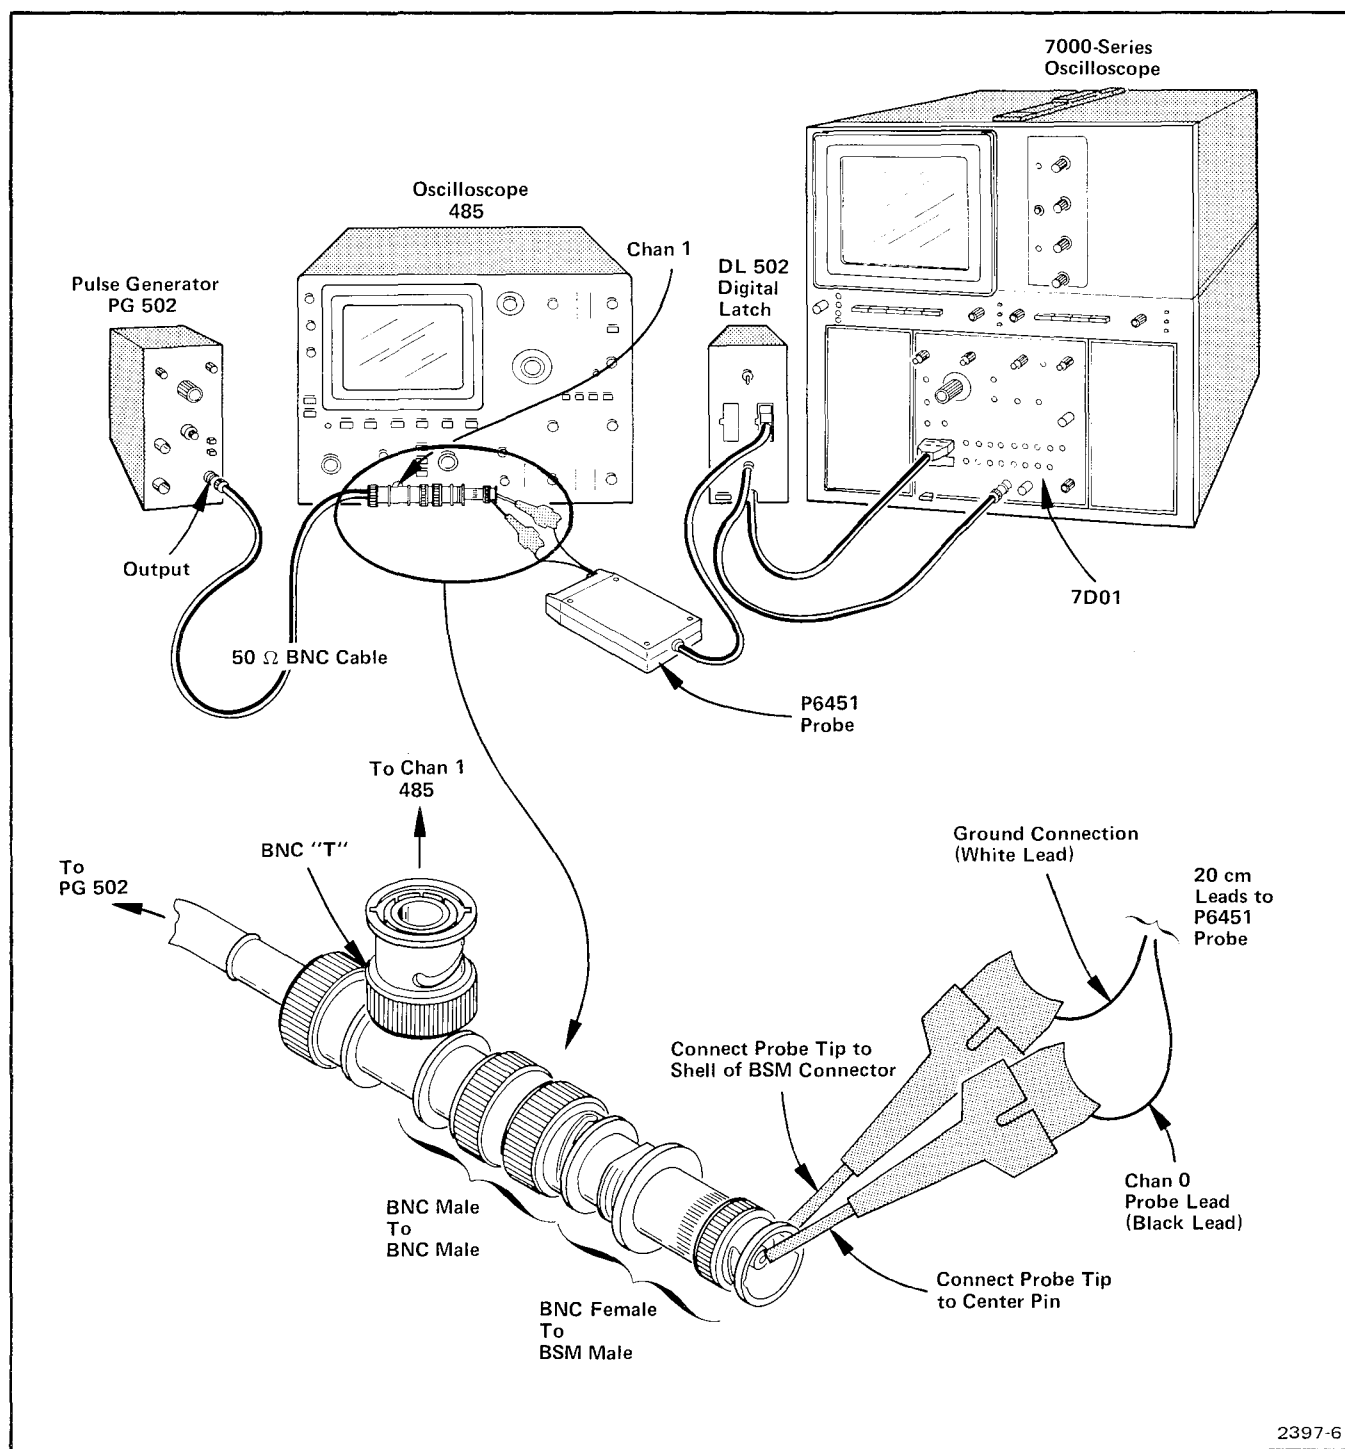

Fig. 3-4. DL 502 Digital Latch operational test setup for 7D01 operation.
If the DL 502 is used with the 7D01, preliminary and operational check procedures 1, 3, 4, 5, and 6 (shown below) should be followed. Refer to Fig. 3-4 for the test set-up.
- a. Install the DL 502 in the TM 500 mainframe and the 7D01 in the plug-in compartment of the 7000-Series test oscilloscope system mainframe. Refer to Fig. 3-4.
e. Connect remaining test instruments in accordance with Fig. 3-4.
a. Connect P6451 probe ground lead (white) to the shell of the BSM male connector. (See Fig. 3-4 or 3-5. This ground connection should remain connected throughout the test procedure.)
b. Connect P6451 Channel 0 probe lead (black) to the probe tip that is connected to the center pin of the BSM male connector. (See Fig. 3-4 or 3-5.)